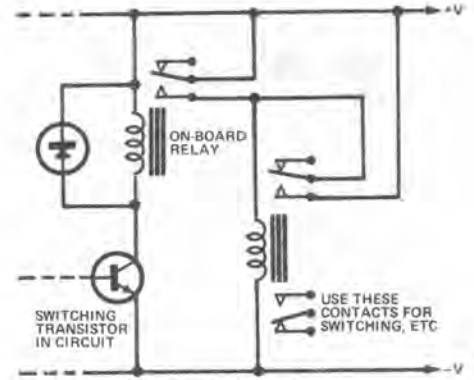

Figure 2
**Making a relay 'latch'.** (See figure 2).